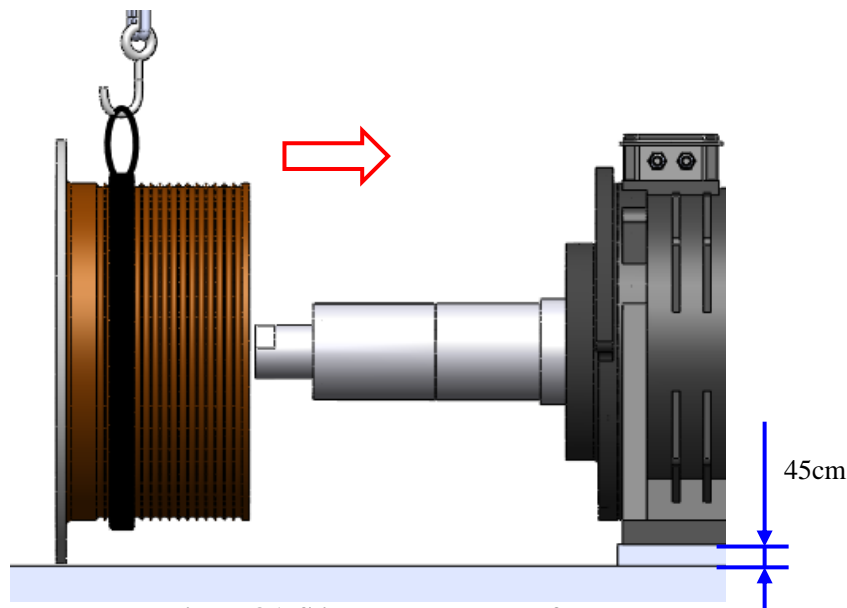

Figure 86: Slide sheave onto shaft
3. Use a lifting device to suspend the Sheave and clean the mate surface. Then slide it onto the main shaft making sure it is fully seated. See Figure 86.